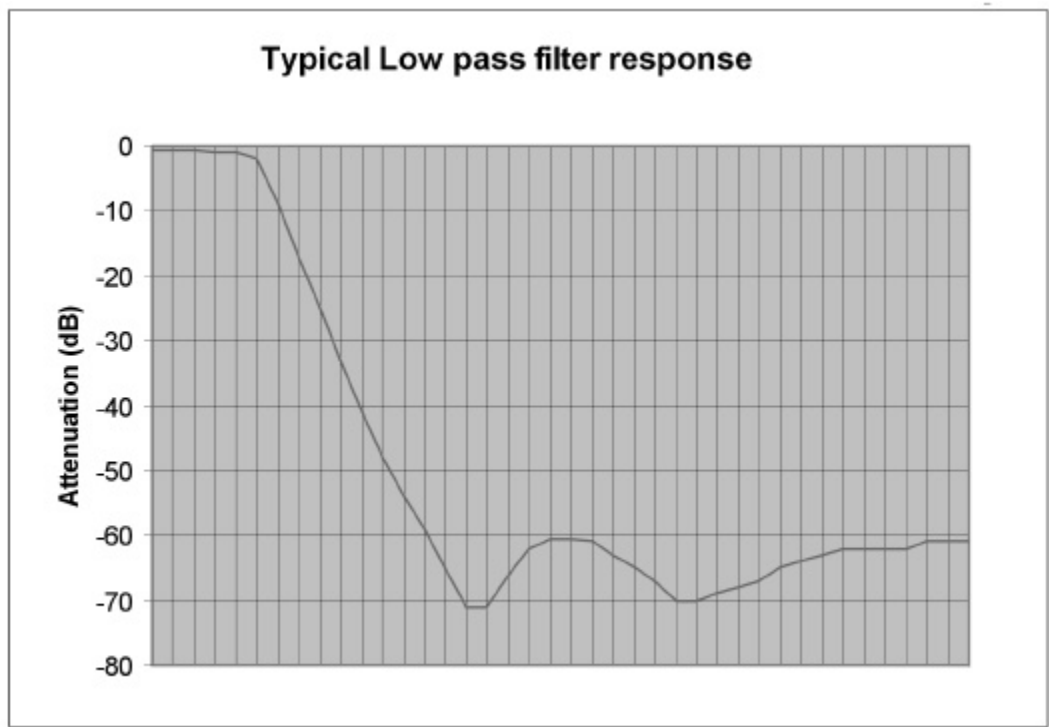

Figure 3-5. Properly Adjusted Low Pass Filter Response
4. Adjust the turns so that the pass band loss from 118 to 152 MHz is less than 1 dB and the stop band attenuation from 235 out to 500 MHz is greater than -60 dB down. As a reference, the analyzer display should be similar to the graph shown in Figure 3-5